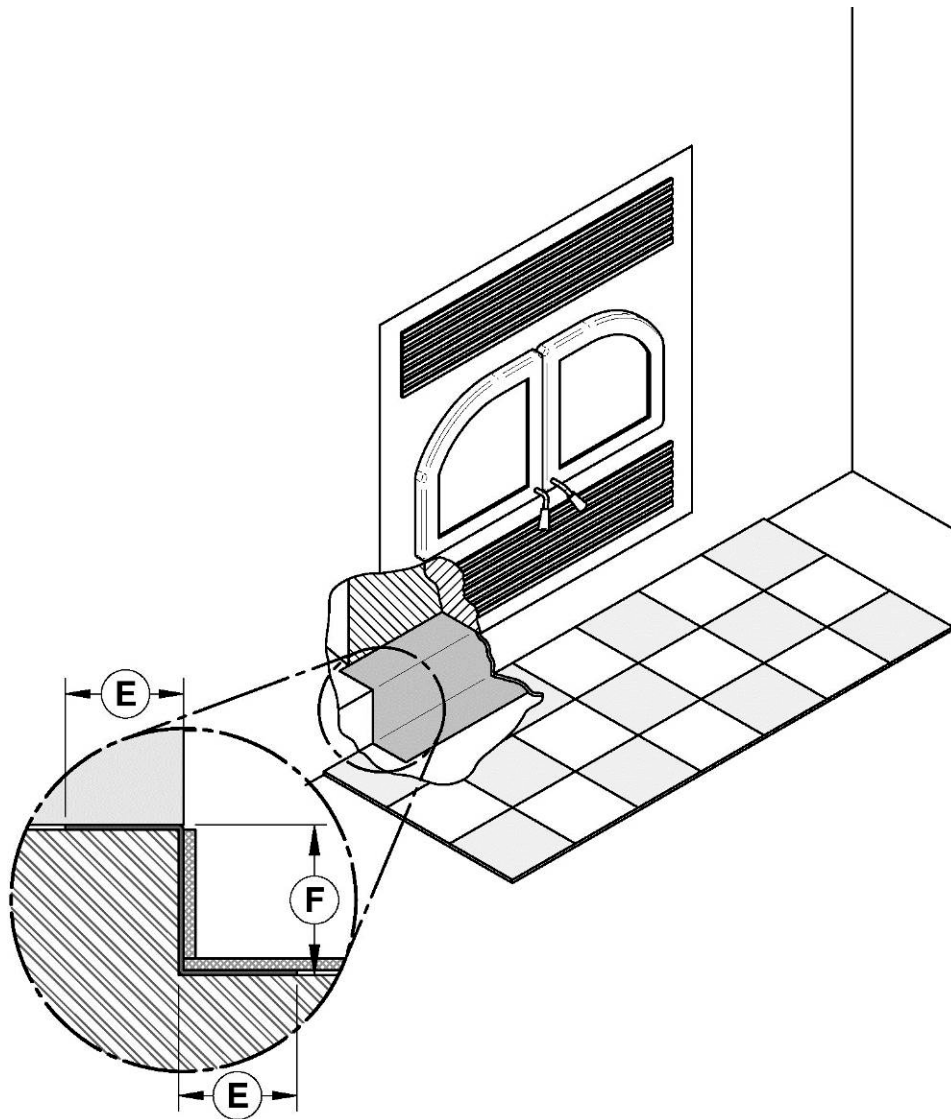

Figure 16 : Raised base installation of 4"
In the case where (F) would be equal to 4", it is suggested that the sheet metal between the base of the fireplace and floor be in one piece. See **Figure 16 : Raised base installation of 4"**.